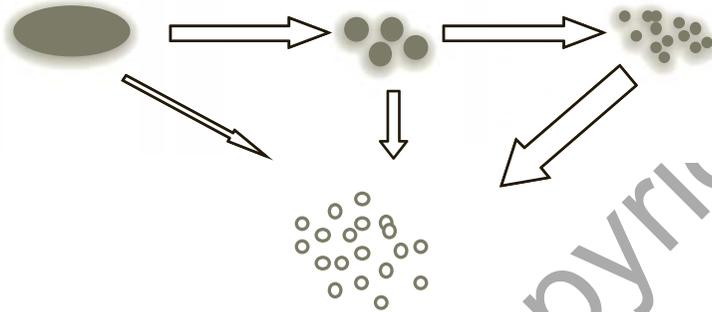

Figure 1.2 Drug dissolution from oral solid dosage form
- *Dissolution:* If the drug is administered in the form of an immediate release tablet, the tablet disintegrates into large granules in the fluids of the stomach, which in turn come apart into fine particles and finally result in the drug in solution (Figure 1.2).